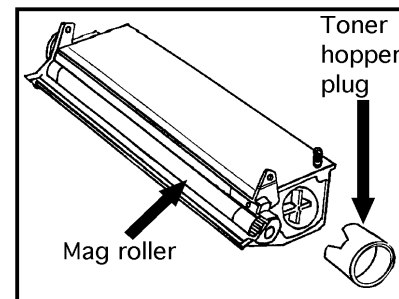

Figure 5
11. Remove the toner hopper plug and empty out remaining toner (Fig 5). Use compressed air to remove any residual toner.